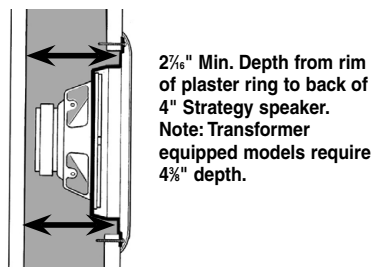

FIG. 5
- Figure 5 Illustrates wall-mount installation using plaster ring Model FAPR-4. A minimum wall depth of 2 7/8" (from rim of the plaster ring to the back of the speaker) is required for mounting.